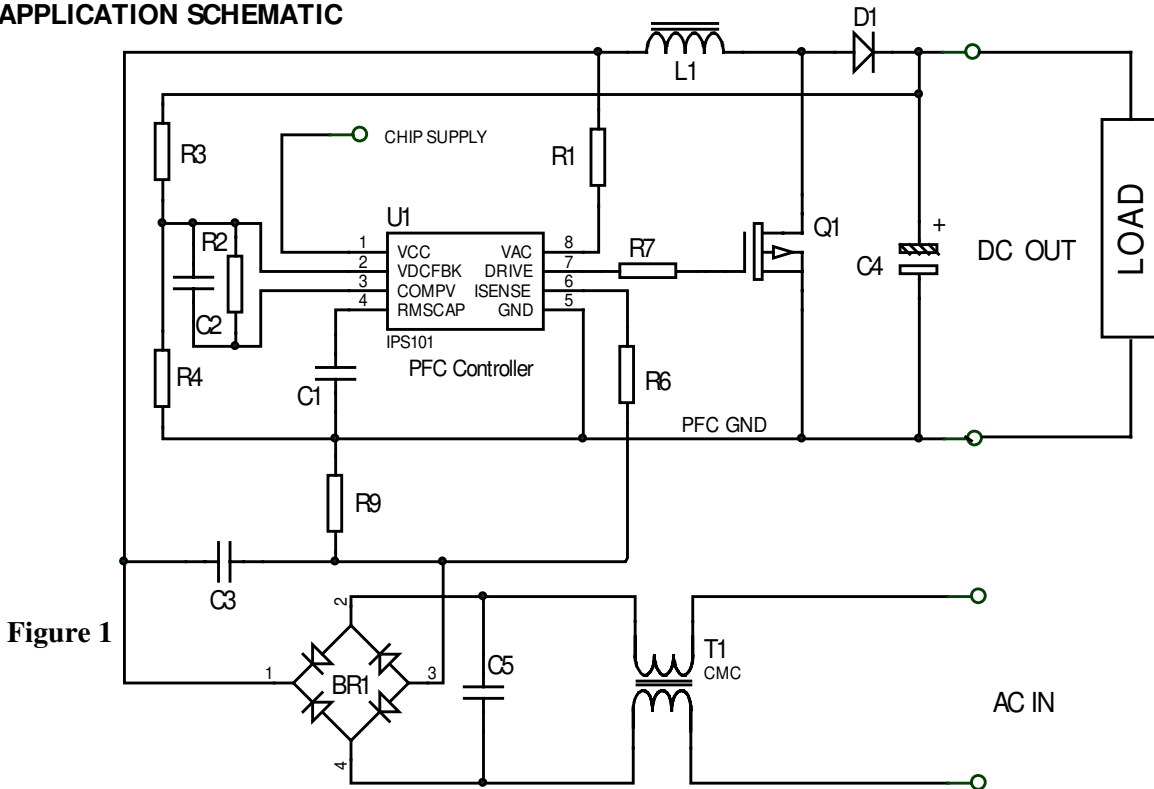

Figure 1
As shown in Fig. 1, a resistor (R1) connected between V_{AC} (pin 8) and the rectified AC line voltage, performs the V to I conversion that generates I_{AC} . The value of R1 is usually 1 M Ω .
The IPS101 includes a voltage error amplifier with a non-inverting input connected to an internally trimmed 2.06V reference. Its inverting input is available on pin 2. Its output is connected to pin 3 and is also internally connected to the V-to-I converter feeding the multiplier as discussed before. As indicated in the typical application schematic of figure 1, pin 2 and pin 3 are used for the following purposes:
$$DC\ out = 2.06 \times (R3 + R4) / R4 \text{ (see Fig. 1)}$$
- (b) the loop feedback compensation network R2, C2, C6 (see Fig. 1) provides a suitable network for most applications. More complicated schemes are possible for demanding applications where transient response is paramount.